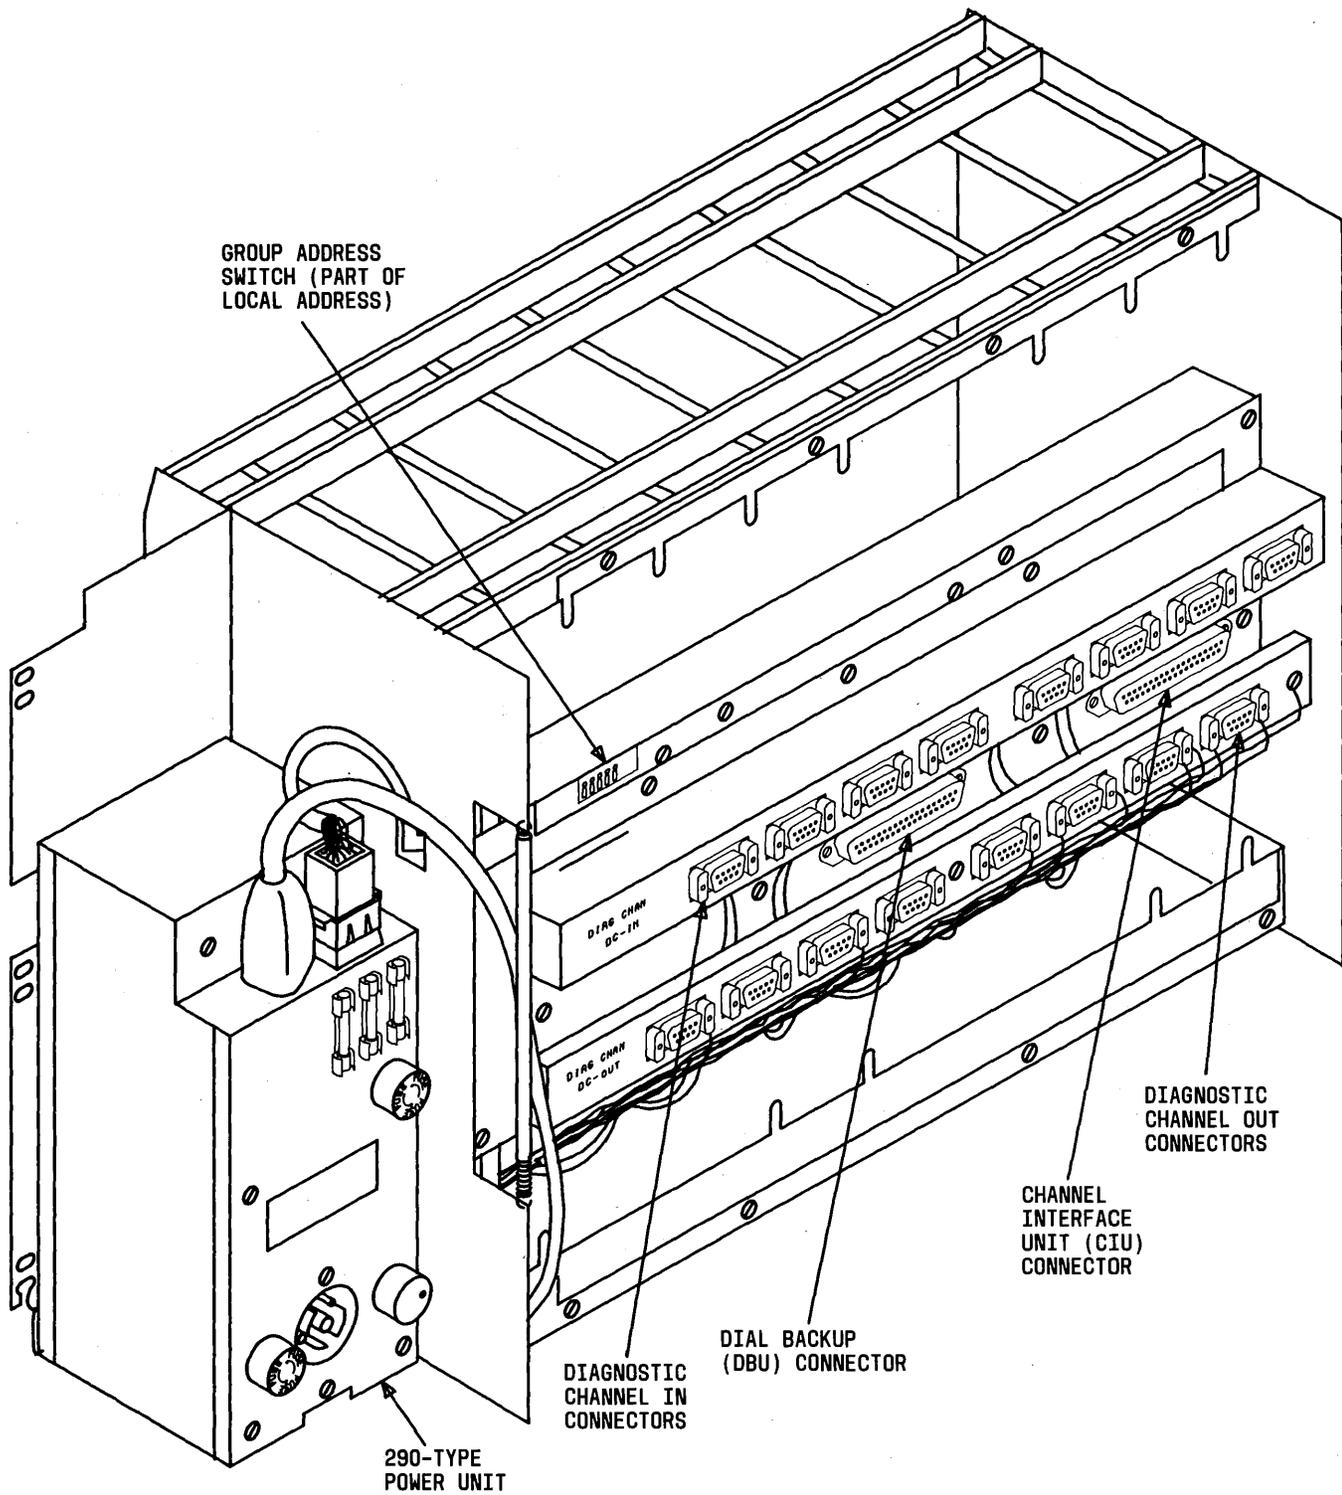

Fig. 3—Rear View of 64A-Type Data Mounting (Control Channel IN and OUT Connectors and Alarm Screws are not Shown)
2.12 The rear of the 64-type data mountings (Fig. 3 and 4) contains 20 connectors, exclusive of the connector for the power unit, ie, dial backup (DBU) connector, channel interface unit (CIU) connector, control channel-in (CC-IN) connector, control channel-out (DC-OUT) connector, diagnostic channel-in (DC-IN) connectors, and diagnostic channel-out (DC-OUT) connectors.
2.14 The rear of the 64-type data mounting has a 5-position address switch (group part of local address) and alarm (ALM) terminal (Fig. 3 and 4). The switch allows only a change in the group number portion of the local address, the position number portion of the local address is set automatically when the data set is inserted into the mounting. The alarm screws are provided to allow connection to an external, noninductive indicator.